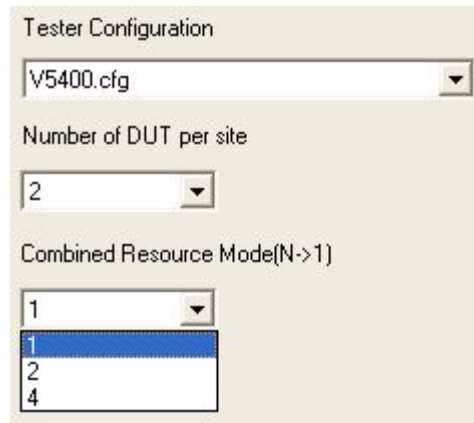

Figure 3-25. Combined Resource Mode Drop-Down List Box
- 4 Selecting 2 closes the list box, and then selecting the Combined Resource Mode drop-down button displays the V5400.cfg supported CRM modes (Figure 3-25).